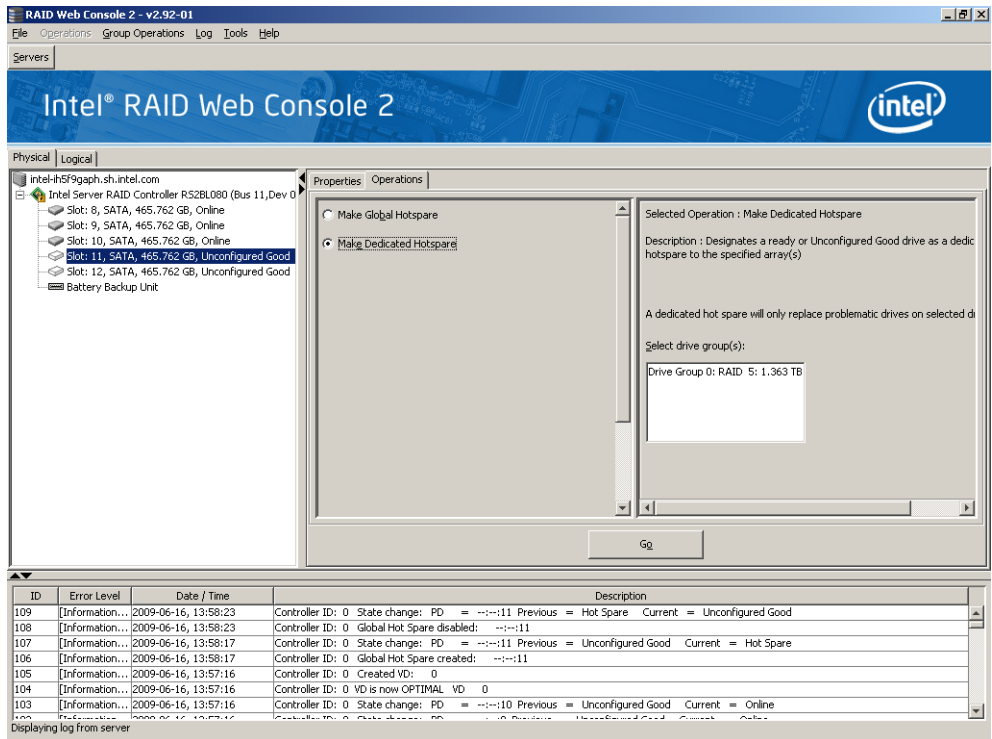

Figure 57. Creating a Dedicated Hotspare
2. In the right panel, click the **Operations** tab and select **Make Dedicated Hotspare**, as shown in Figure 57.